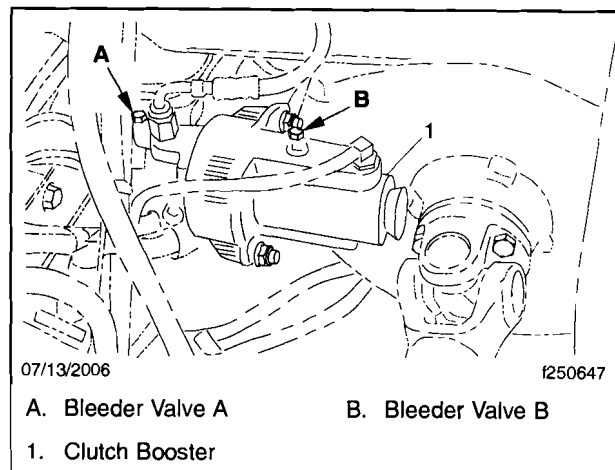

Fig. 15, Bleeding the Clutch Booster
7. Using a hose clamp, attach the hose from the bleeder unit to the bleeder valve A on the clutch booster. See Fig. 15.
15. Repeat the procedure in reverse order of the valves, starting at the release bearing bleeder valve and ending at bleeder valve A. See Fig. 15.
4. Select a forward gear, open bleeder valve A on the clutch booster, and allow the fluid to flow. See **Fig. 15**.